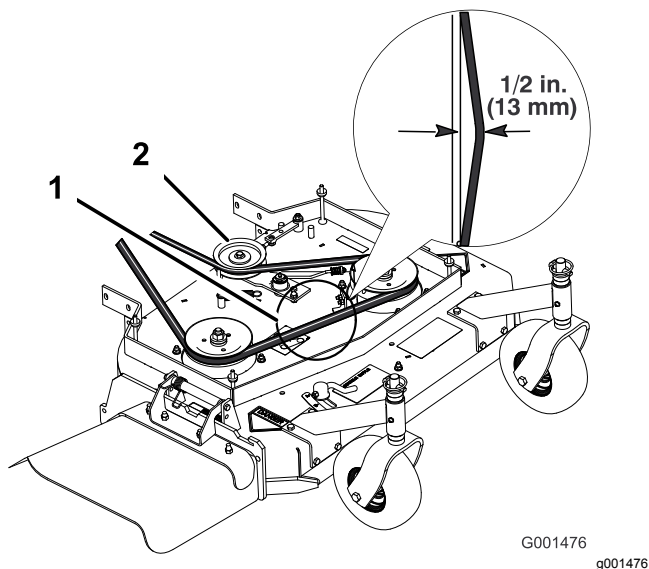

Figure 41
Note: The proper mower belt tension is 44 to 67 N·m (10 to 15 ft-lb) with the belt deflected 13 mm (1/2 inch) halfway between the pulleys (Figure 41).
3. Loosen the locknut on the turnbuckle (Figure 41).
- Rotate the turnbuckle toward the front of the machine to decrease the tension on the belt (Figure 41).